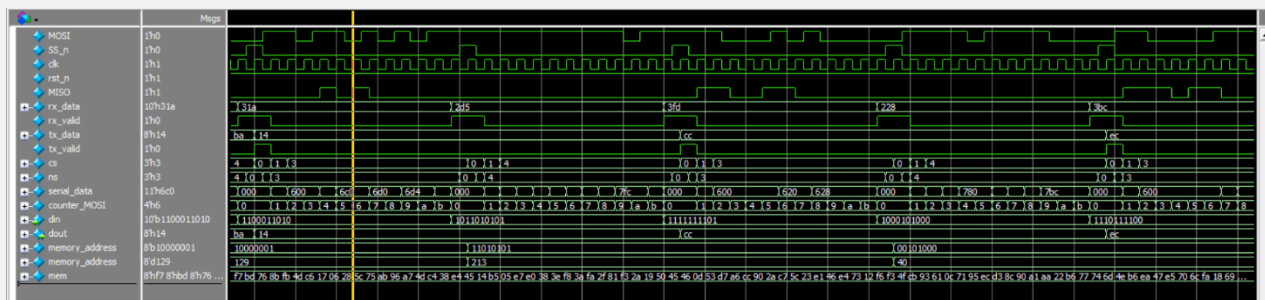

Figure 4: READ operation check
- 1.4. Figure 4: READ Operation Check